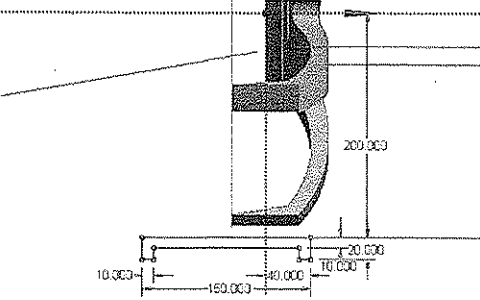

Figure 5-30 Sketch for the revolved feature of the rim
- 3. Draw the sketch for the revolved feature using the dimensions given in Figure 5-30.